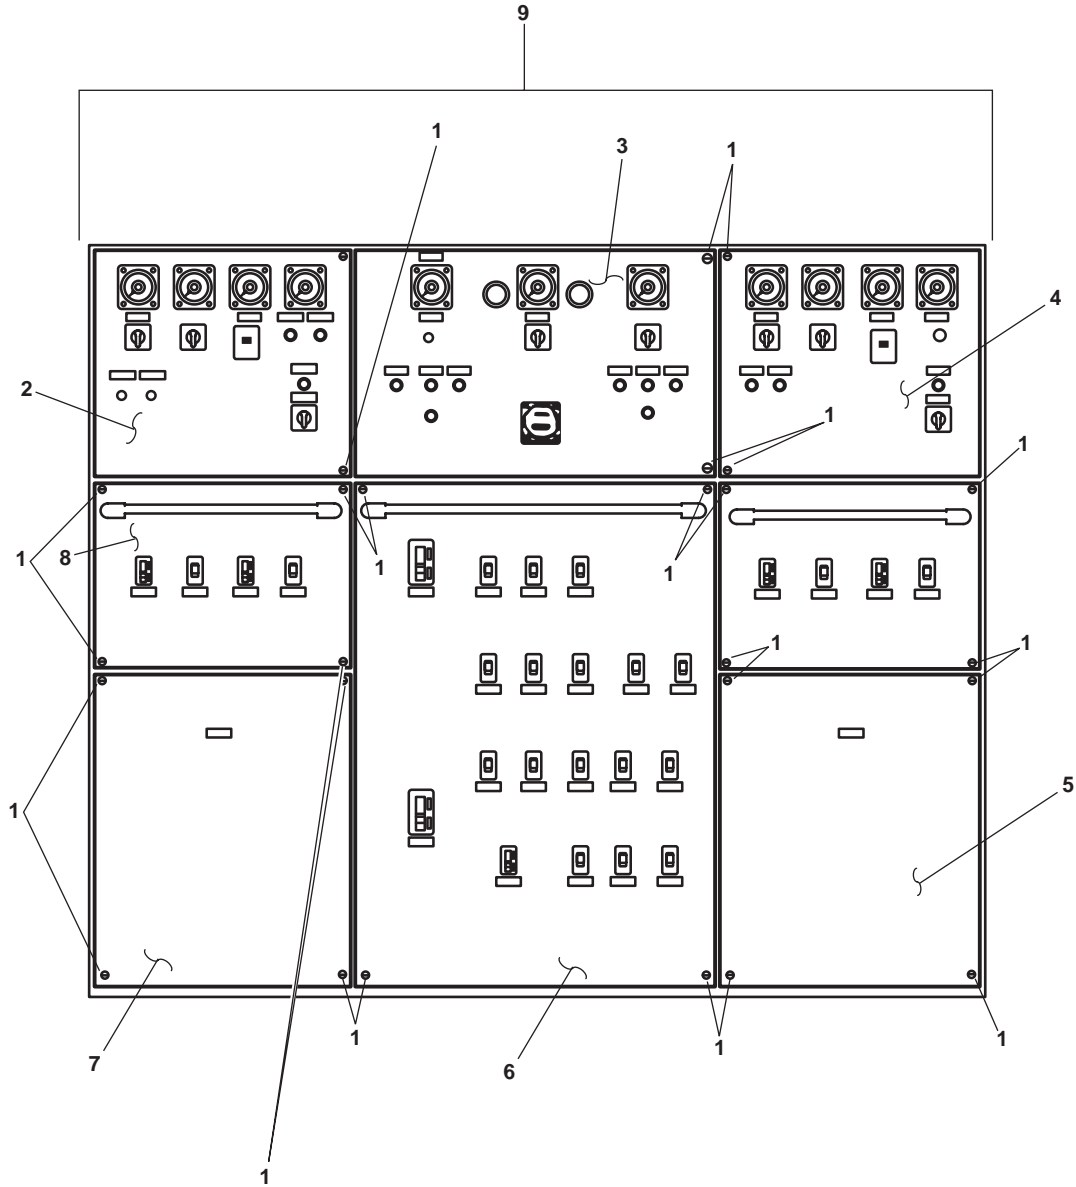

Figure 1. Main Switchboard
1. Loosen the captive screws (figure 1, item 1) on the desired panel (figure 1, items 2, 3, 4, 5, 6, 7, and 8).
2. Remove/OPEN the desired panel (figure 1, items 2, 3, 4, 5, 6, 7, and 8) from/on the main switchboard (figure 1, item 9).
1. Install/CLOSE the desired panel (figure 1, items 2, 3, 4, 5, 6, 7, and 8) on the main switchboard (figure 1, item 9).
2. Tighten the captive screws (figure 1, item 1) on the desired panel (figure 1, items 2, 3, 4, 5, 6, 7, and 8).